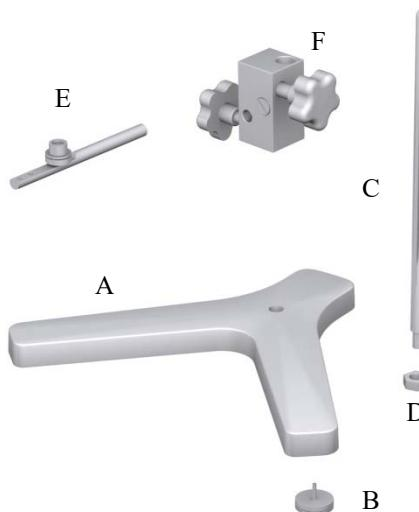

Fig. 5 Set-up for the viscometer base
- Remove all of the parts from the standard package. Note the Figure below (fig 5).
- Correctly place the three height adjustable knobs (B) on the Y-shaped base (A).
- Mount the fastening rod (C) with the holding screw (D) at the base (A).
- Attach the nut (F) to the fastening rod (C). The viscometer should be connected to the nut (F) by means of its rod (E).
- Insert the horizontal rod of the viscometer (E) into the nut (F).